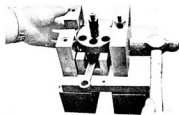

Fig. 4-16-14
- 3) Join the other half of the crankshaft with the above crankshaft, and press the crank pin into the crankshaft end only half way in. Then place the slide plate on the rim of the crank web, and align the crankshaft temporarily. (Fig. 4-16-14)